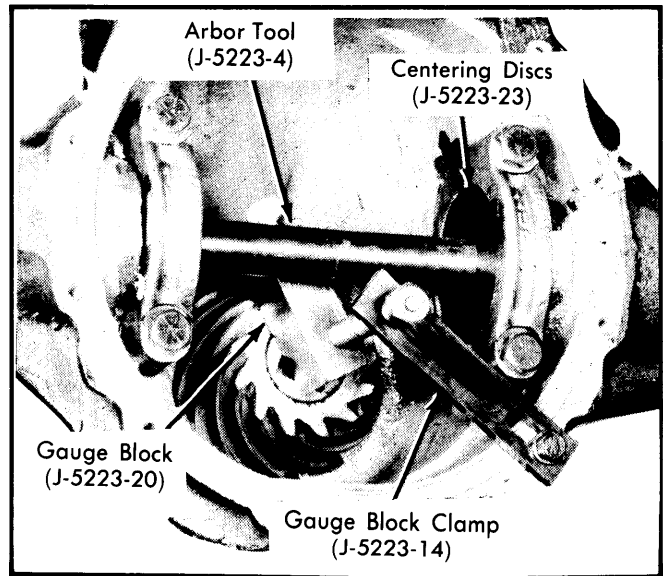

Fig. 5 Measuring Pinion Depth
13) Attach gauge block clamp (J-5223-14) to housing using a housing cover bolt. Tighten clamp bolt down against gauge block to prevent block from moving. See Fig. 5.